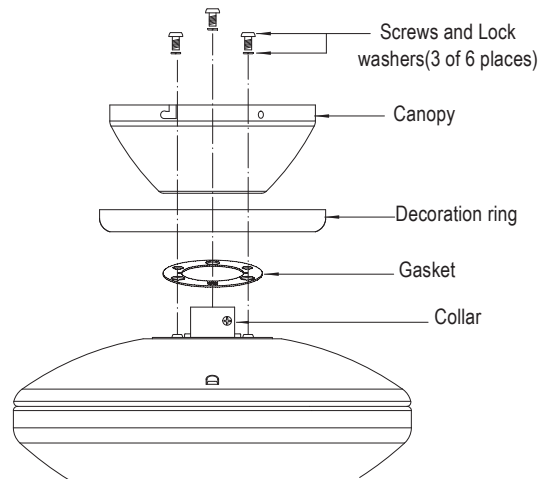

Fig. 8
Step 1. Pass the 120-volt supply wires through the center hole in the ceiling hanger bracket as shown in Fig. 8.